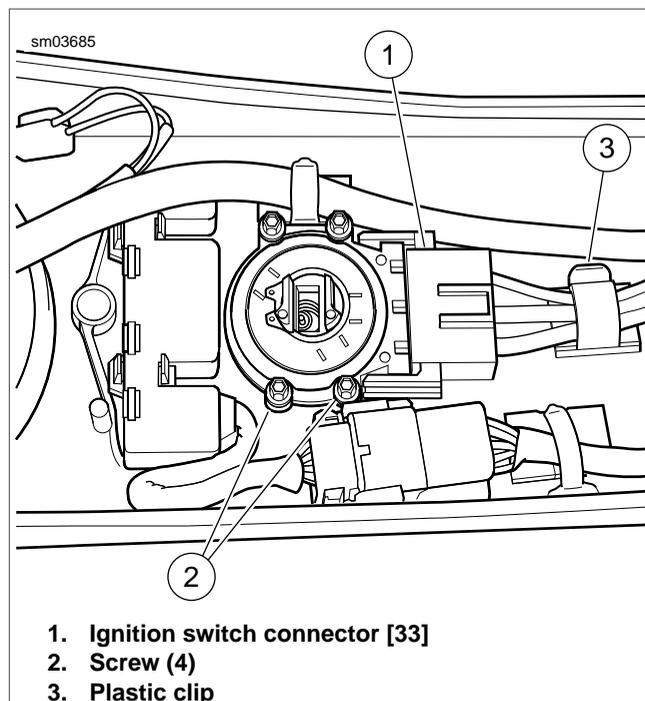

Figure 8-67. Instrument Console (FLHR/C)
6. Disconnect ignition switch connector [33], 3-place Packard. See Figure 8-67. Release ignition switch conduit from plastic clip, if necessary.
1. Align holes in **new** ignition switch with those in console. See Figure 8-67.